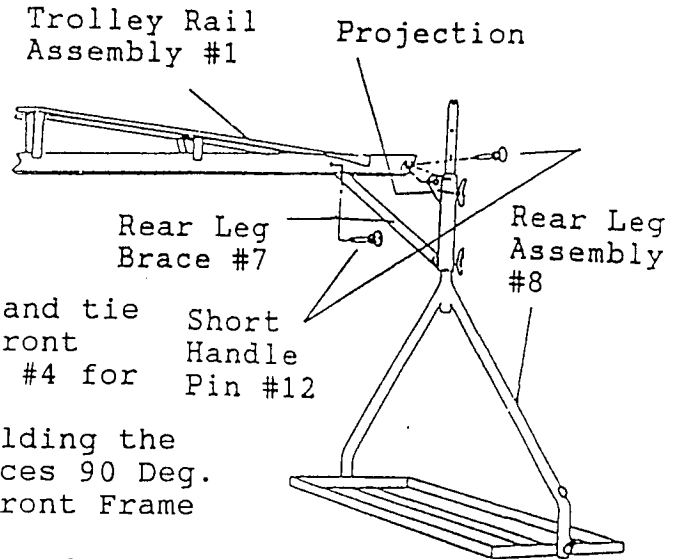

Figure 3
- C. Slide the Rear Leg Brace #7 into the Trolley Rail Assembly #1 (rear). (Fig. 3).
- E. Pin the Rear Leg Brace #7 to the Trolley Rail Assembly with a Short Handle Pin #12 through the matching holes. (See figure 3.)